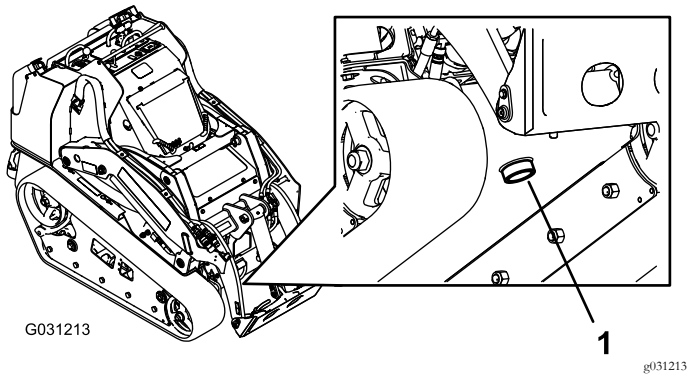

Figure 68
- Place a large drain pan capable of holding 57 L (15 US gallons) under the drain plug on the front of the machine (Figure 68).
- Remove the drain plug and allow the oil to drain into the pan (Figure 68).